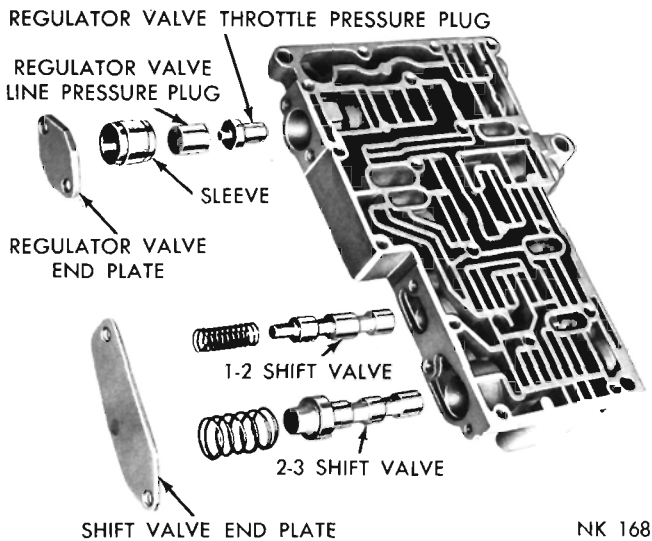

Fig. 76—Valve Body—Shift Valve Side
(16) Remove the shift valve end plate (Fig. 76) and slide out the two springs and valves.
(17) Remove the regulator valve end plate. Slide the regulator valve line pressure plug, sleeve, and the regulator valve throttle pressure plug out of the valve body.
(5) Install the 1-2 and 2-3 shift valves and springs (Fig. 76). Install the shift valve end plate and tighten the three retaining screws to 28 inch-pounds torque.
(6) Install the regulator valve throttle pressure plug, sleeve, and the line pressure plug (Fig. 76). Install the regulator valve end plate and tighten the two retaining screws to 28 inch-pounds torque.